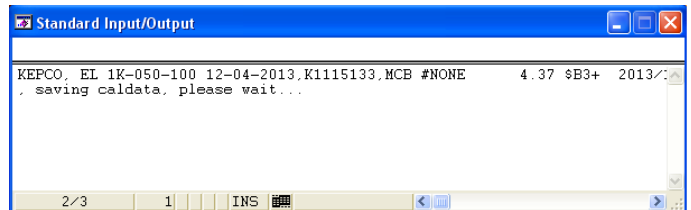

FIGURE 2. STANDARD INPUT/OUTPUT WINDOW, SAVING CALDATA
4. If the connection is made, the **Standard Input/Output** window opens (Figure 2), showing the Identifier string